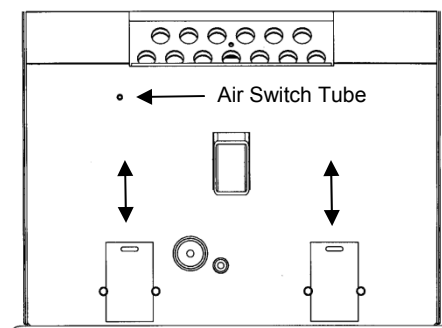

FIGURE 18
- Interior Chambers** – The two ash doors in the firebox in the Breckwell Big E can be removed for periodic cleaning (refer to figure 18). These doors allow access to the chamber behind the firebox.